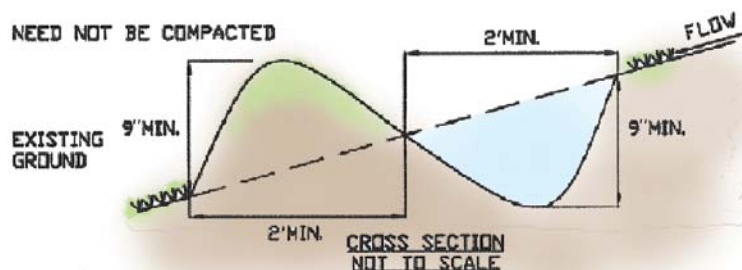

Figure 3.3. Combined berm/swale cross section.
- All berms should be compacted by heavy equipment, except for the combined dike/swale (Figure 3.3).